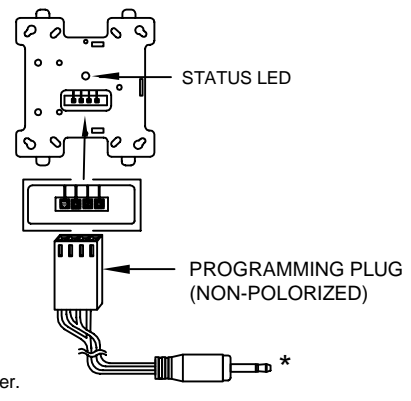

FIGURE 1B FRCME-4
- 3) The address must be set on the FRCME-4 before the cover plate is attached (see Fig. 1B).